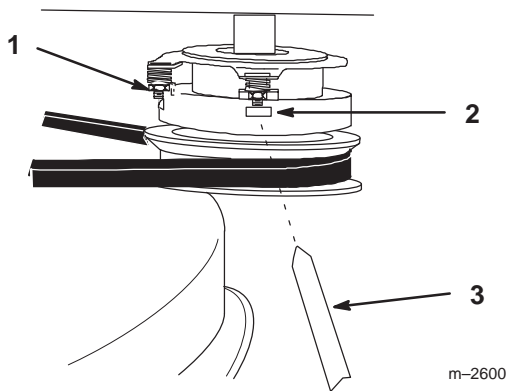

Figure 38
1. To adjust clutch, tighten or loosen lock nuts on flange studs (Fig. 38).
2. Check adjustment by inserting feeler gauge through slots next to studs (Fig. 38).